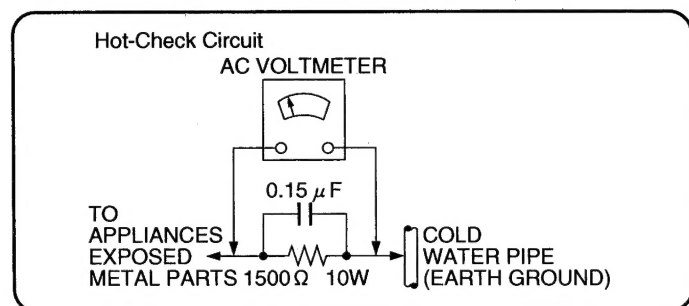

Figure 1
#### LEAKAGE CURRENT HOT CHECK (See Figure 1.)
2. Connect a  $1.5\text{k}\Omega$ , 10 watts resistor, in parallel with a  $0.15\mu\text{F}$  capacitors, between each exposed metallic part on the set and a good earth ground such as a water pipe, as shown in Figure 1.